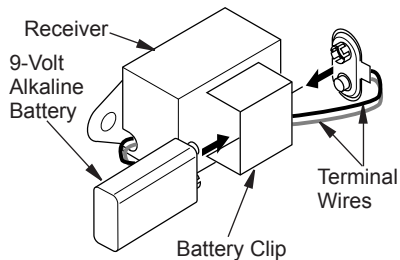

Figure 38 - Attaching Alkaline Battery to Receiver
3. Locate the battery clip mounted on the back of the receiver. Slide a 9-volt alkaline battery (not included) through the clip (see Figure 38).